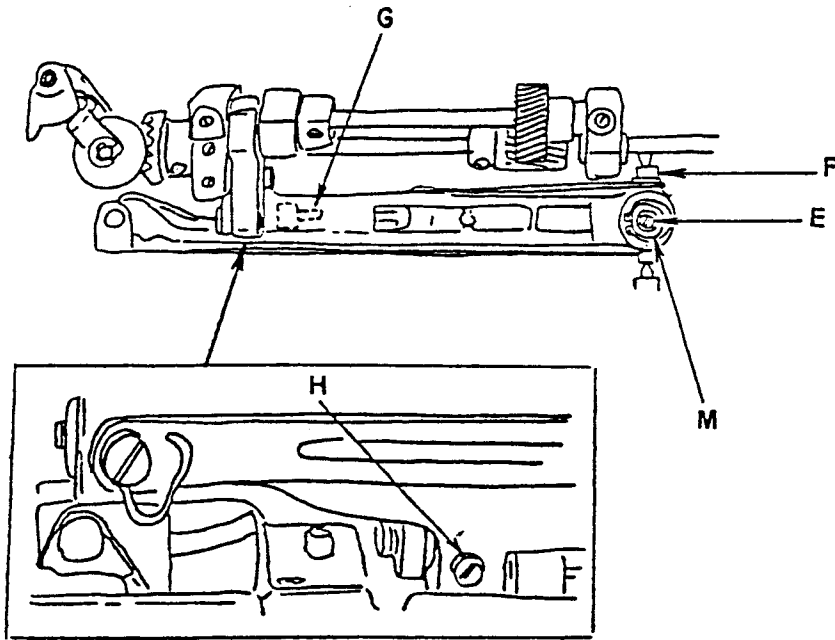

Fig. 25-3
2. Loosen set screw (H) holding feed bar connection eccentric (G) and turn eccentric (G) until center bar (D) of feed dog is as close as possible to throat plate without striking it. (Fig. 25-3).
3. Tighten set screw (H).